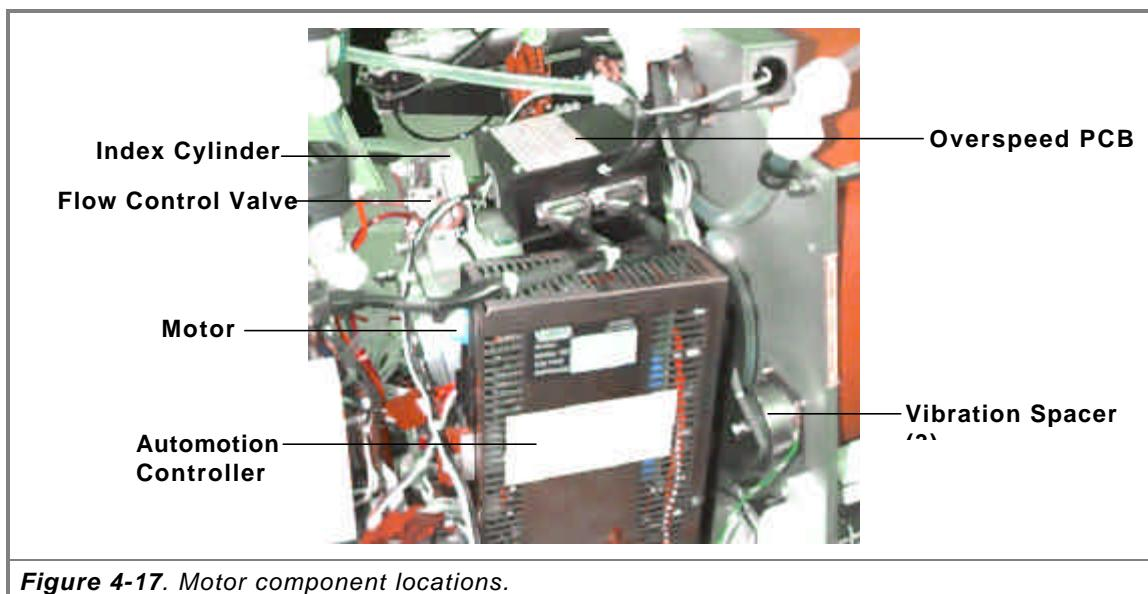

Figure 4-17. Motor component locations.
4. Figure 4-17 is an overview of component locations for this procedure.